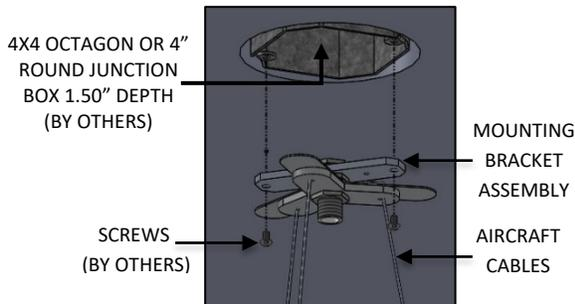

FIG. 10 – MOUNTING BRACKET ASSEMBLY
2. Secure the MOUNTING BRACKET ASSEMBLY along with AIRCRAFT CABLES to the JUNCTION BOX (by others) as shown below in FIG. 10.